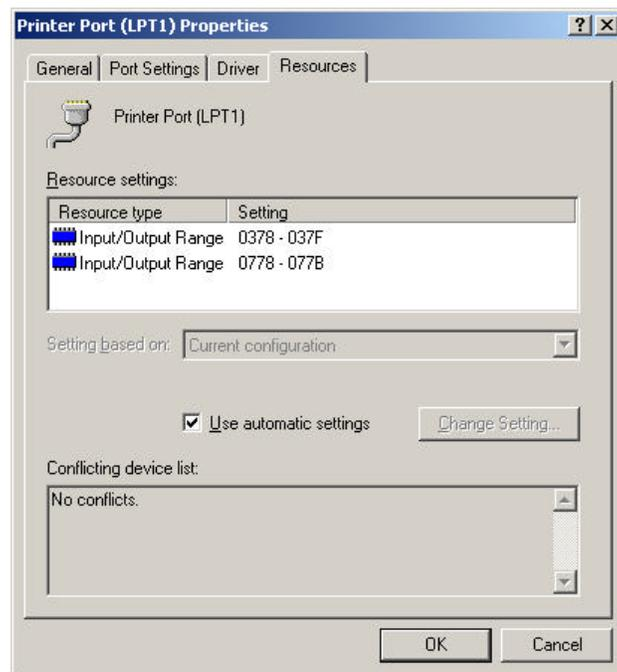

Figure 8: Displaying the Port's Resources
6. Select the *Resources* tab (see figure 8)
In the example of figure 8, the port address for the LPT1 printer port is 0378 (hex). To edit the appropriate registry key, follow these steps: